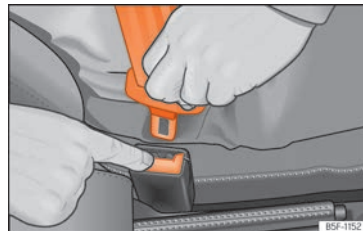

Fig. 11 Release the seat belt's buckle.
- Press the red button on the buckle »» » Fig. 11. The latch plate is released from the buckle.